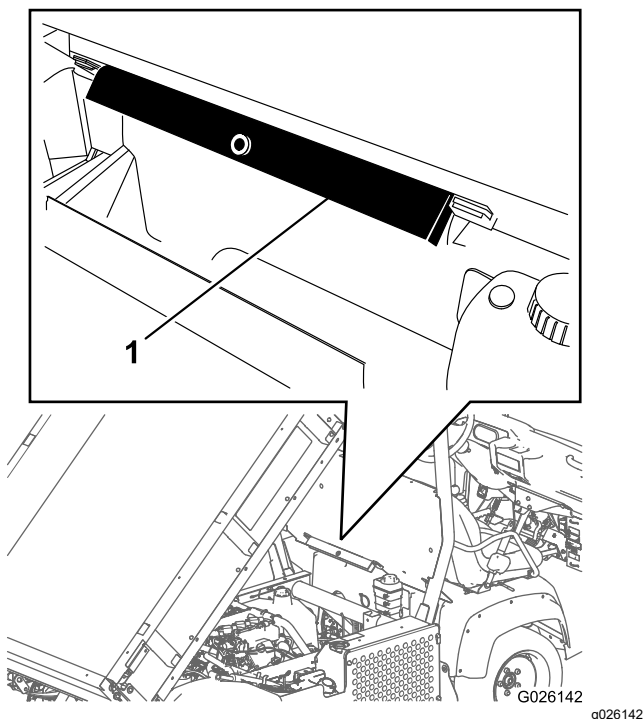

Figure 31
2. Remove the bed support from the storage brackets on back of the ROPS panel (Figure 31).